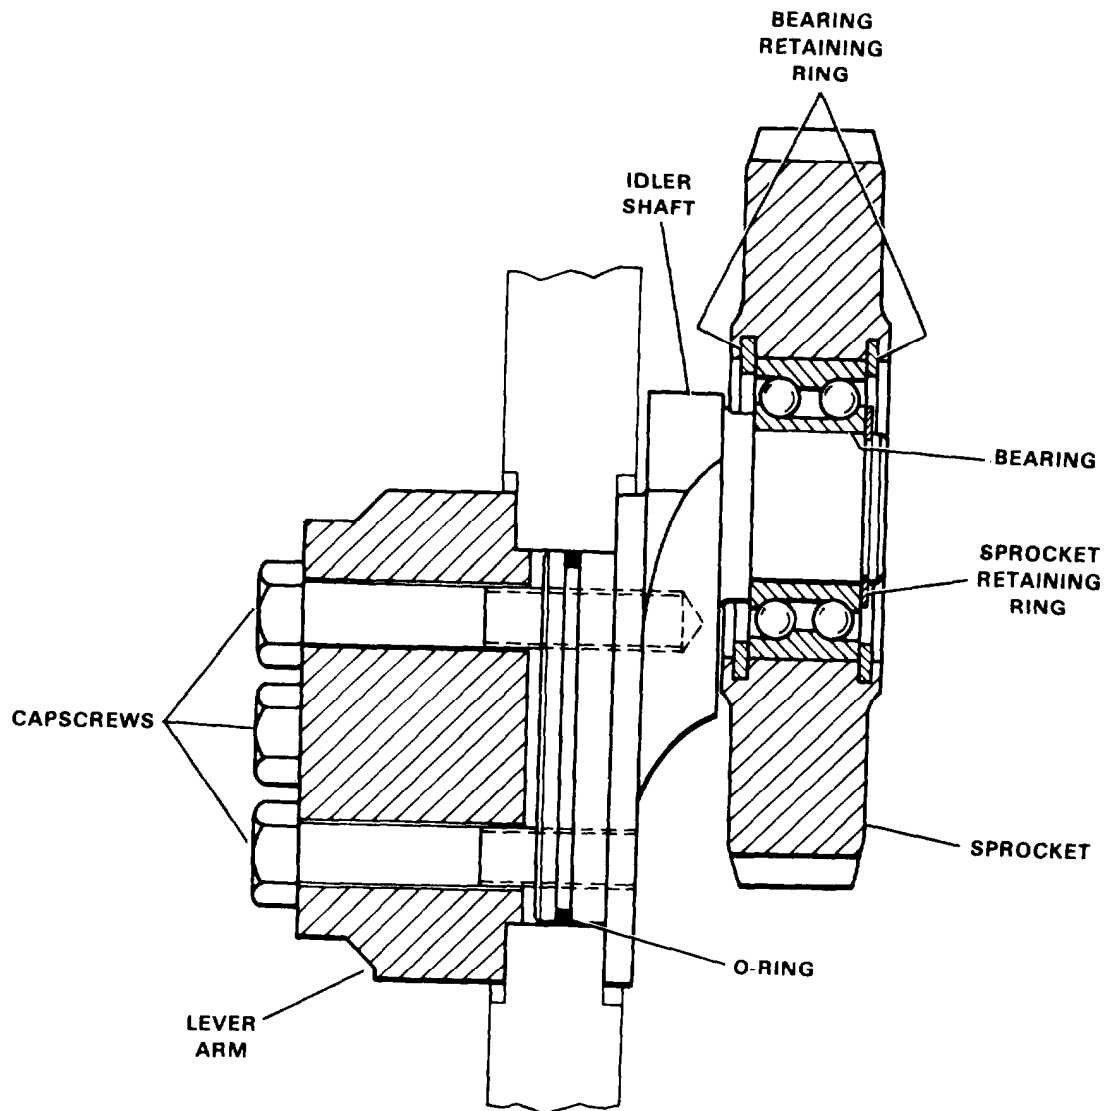

Figure 4E-2. Idler Shaft (2100N515F1)
**INSTALLATION.** To install the idler shaft, proceed as follows (see Figure 4E-2):